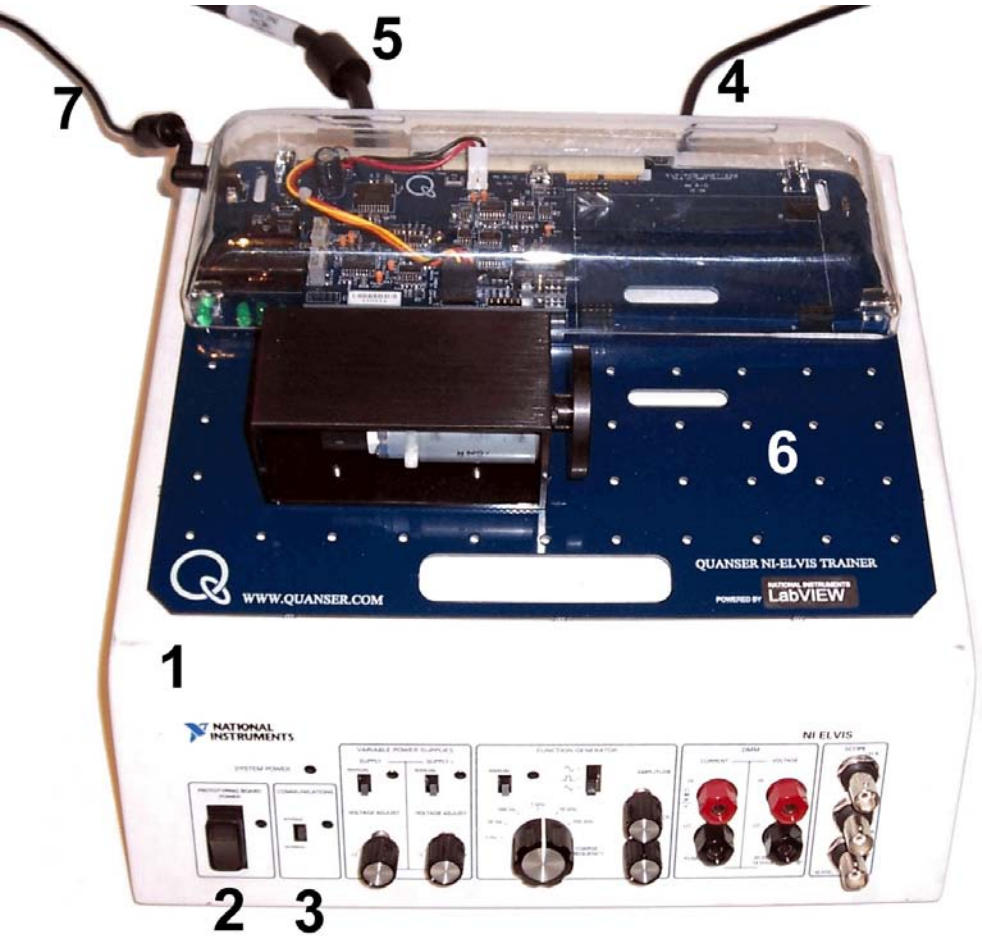

Figure 11: NI ELVIS and QNET-DCMCT setup for use with LabVIEW.
The procedure to setup a QNET on the NI ELVIS I is explained in this section. The installed system using the QNET DC Motor module is pictured in Figure 11.
Some of the components used in the installation procedure are located and marked by an ID number in Figure 11 and described in the Table 3, below.
4. Connect the NI ELVIS power cable shown as ID #4 in Figure 11.
5. Connect the QNET power cable labeled ID #7 in Figure 11.